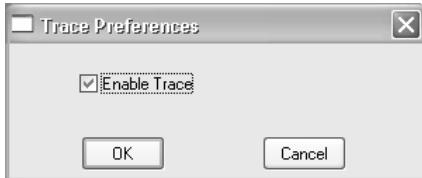

FIGURE 12 Enabling the Trace Buffer option.
15. Since the trace option is turned off by default, emulators with Trace Buffer require activating the feature from within the debugger. Select Project > Preferences > Trace. Make sure that the Enable Trace check box in the Open Trace Preferences dialog box is checked (Figure 12). Click OK.